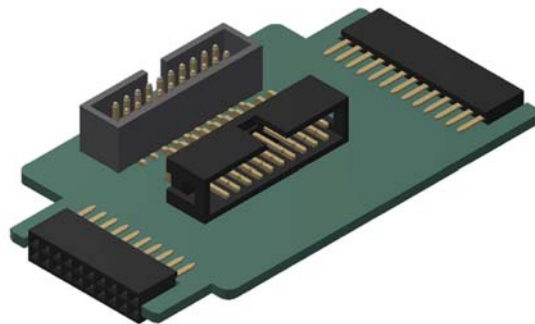

Figure 2 - Adapter for Audio Grabber
The adapter (Figure 2) is used to facilitate concurrent and time-synchronized capture of other signals, when needed, such as I2S digital audio, UART, commonly used audio control protocols like I2C and SPI, logic signals, and other traffic types, by use of a Flying Leads probe (Figure 4), supplied standard with all Ellisys analyzers. See the section titled Flying Leads Probe – Bluetooth Tracker and Vanguard for more information on connecting the Flying Leads probe.
Looking at Figure 2 (above), the connector at left will attach to the Logic port on Bluetooth Tracker or Vanguard. The connector at right attaches to Bluetooth Explorer's Logic port. There are two center-mounted connectors – the connector at back allows for insertion of the flying leads probe, and the other accommodates the connection of the Audio Grabber (see Figure 3, below).
1. If the Audio Grabber is to be attached through the adapter (Figure 2), connect the Flying Leads probe (Figure 4), if needed, to the adapter, otherwise proceed to Step 2.